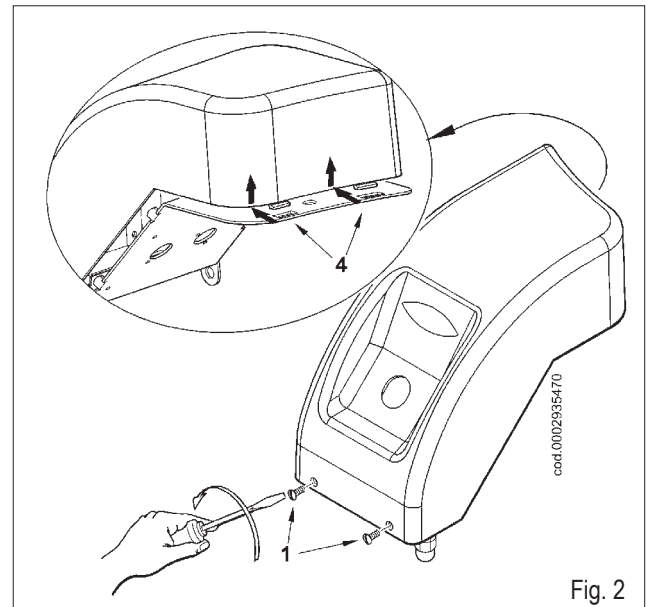

Fig. 2
- 3) Now remove the 4 nuts (7) in figure 2, disassemble the flame pipe (8) from the relative stud bolts, reposition them with the threaded connection for fixing the gas train upwards.
- 2) To reach the electrical components, loosen the two screws (1), gently pull back the cover to detach it from the electrical panel base (fig. 2) then lift it up.